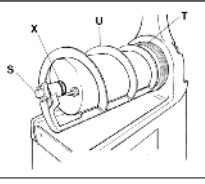

Fig. 5
- Unscrew the securing bolt (S) in the direction of the arrow (threading on the left), pull off of the mixing unit (U), and remove the sealing washers (X) and (T) (see fig.5).
- Mount the mixing system back together (fig.5), according to the following procedures: